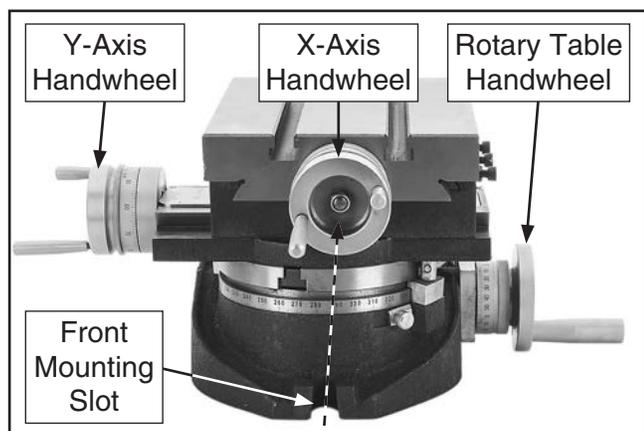

Figure 32. Aligning table to lubricate X-axis leadscrew.
1. Turn rotary table handwheel until X-axis handwheel is parallel with front mounting slot, as shown in **Figure 32**, then use X-axis handwheel to move table all the way forward over front mounting slot.
Note: Because the T1243 table can rotate 360°, whichever handwheel aligns with the front mounting slot controls X-axis table travel. To access the X-axis leadscrew for lubrication, align the handwheels as shown in **Figure 32**.